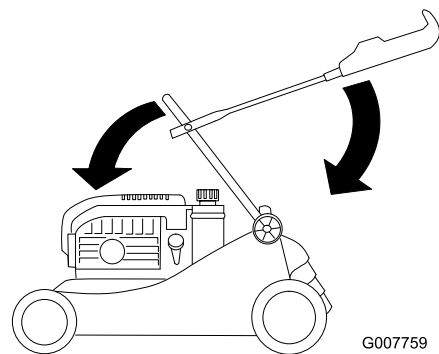

Figure 34
3. Carefully swing the lower handle section forward until it rests on the engine (Figure 34).
4. Carefully swing the upper handle section rearward until it rests flat (Figure 34).